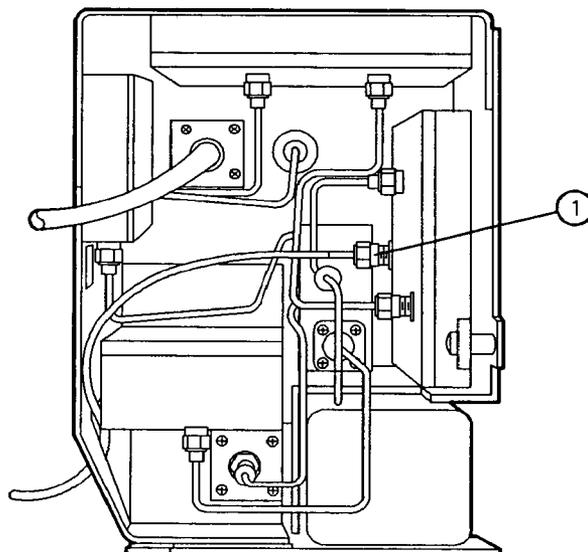

Figure 3-31. Connecting the Counter Lock Cable
12. Connect the counter lock cable to the RF section's COUNT LOCK LO OUT connector (1). See Figure 3-31. Be sure to route the cable as illustrated in the figure.